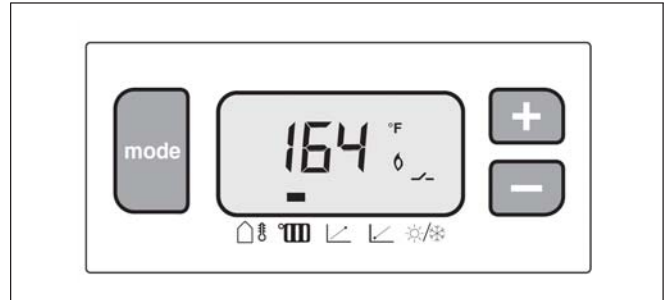

Fig. 27 Current target supply temperature
- The second menu item is the current supply temperature computed based on the current outdoor temperature (Fig. 27).